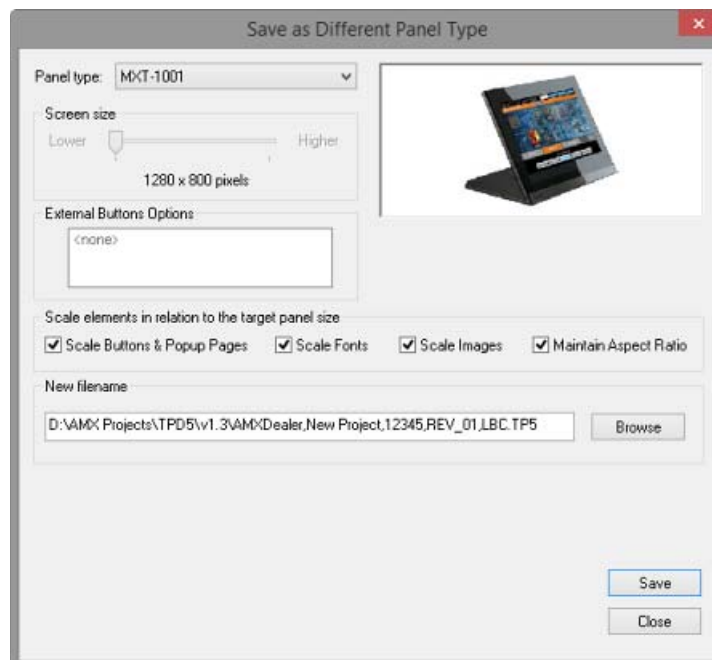

FIG. 10 Save As Different Panel Type dialog
2. Select **File > Save As Different Panel Type** to open the *Save As Different Panel Type* dialog (FIG. 10):